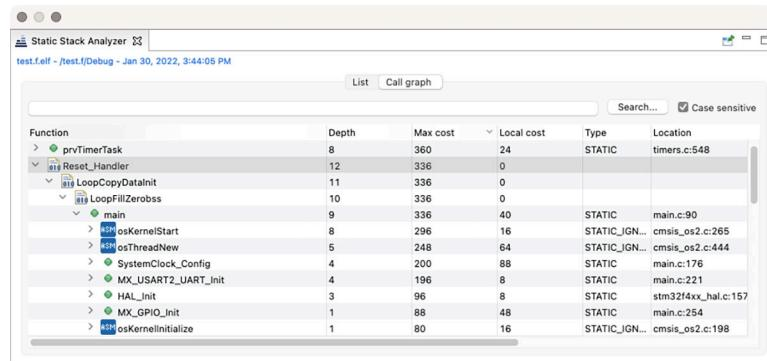

Figure 24.18: The Call Graph tab in the Static Stack Analyzer view
- The Call Graph tab (see Figure 24.18) contains detailed program information in a tree view. Each function included in the program but not called by any other function is presented at the top level. It is possible to expand the tree to see called functions. Only functions available in the ELF file can be visible in the tab. When used, the Search... button triggers the display of the functions matching the characters in the search field. The search can be made case sensitive or not depending on the selection in checkbox Case sensitive. The small icon left of the function name in column Function column indicates the following: